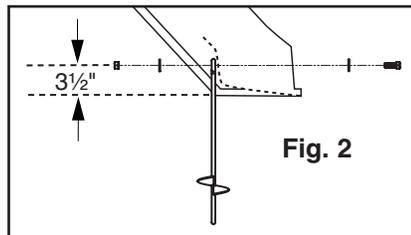

Fig. 2
4. Secure both ends with staples provided (2 each end). **(Fig. 2)**
6. Use the anchor as a drill guide and drill a ⅜" hole completely through the Climbing Wall. Attach Climbing Wall to anchor with one ⅜" x 1" hex bolt, two ⅜" washers and one ⅜" lock nut provided in the anchor kit. (Fig. 2)